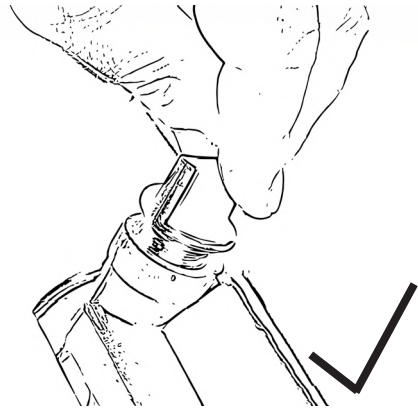

Figure 5
- Unscrew the oil filler plugs with connected dipstick, Fig. 5.